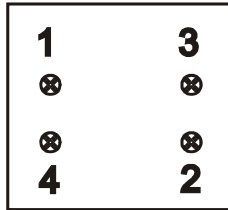

Figure 26. RF Screen Screw Tightening Sequence (I300M)
11. Replace the screen assembly. After replacing the screen assembly, refer to Figure 26; hand-tighten the four M3 screws as shown until snug. Tighten them in sequence to 0.9 N-m (8 inch-lbs.) using a torque-controlled screwdriver. Repeat tightening the fasteners according to the sequence and torque specified.